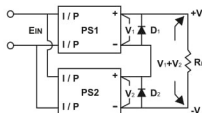

Figure 11: Series connection by adding external reverse blocking diodes
- (2) Increase the output voltage (current does not change). If there is no reverse blocking diode in the power supply, we should add an external blocking diode to prevent the damage of power supply while starting up. The voltage rating of the external diode should be larger than $V1+V2$ (as figure 11).